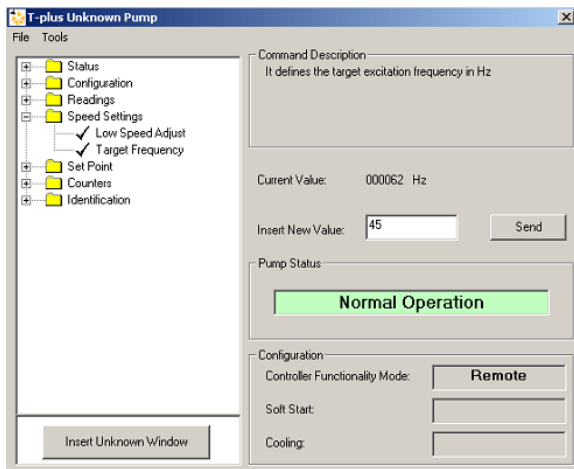

Figure 6 T-Unknown Pump
5. Click **Open Control Panel** and Figure 6 appears.